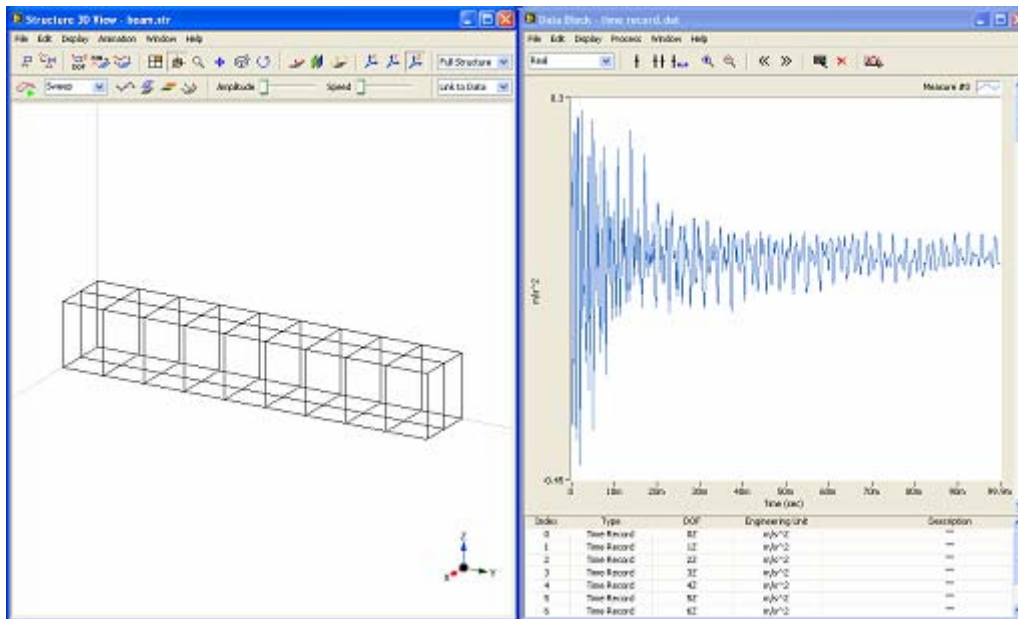

Figure 4-3 Time ODS animation
- Execute menu **File | Load...** in the data viewer window, and load **time record** in the data block file list. The time record with eight traces is displayed in the window, as Figure 4-3 shows.